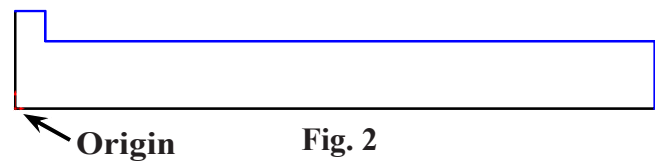

Fig. 2
Step 3. Click **Line**  (L) on the Sketch toolbar.
Step 4. Draw lines starting at the Origin , **Fig. 2**. Use the inferencing line, the dotted line that appears when you draw the lines.